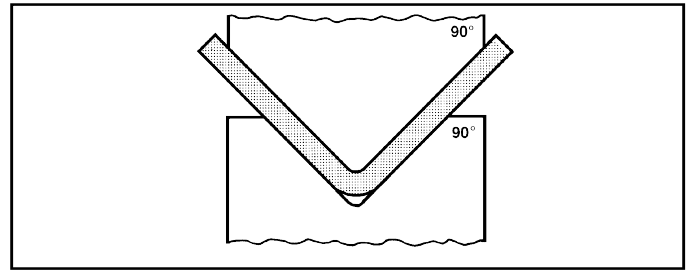

FIGURE 5-12 Bottom Bend
- **DO NOT** attempt to air bend a part using TONNAGE Ram Reversal mode (refer to SECTION 7). Bottoming dies must be used when reversing on tonnage. See Figure 5-12.